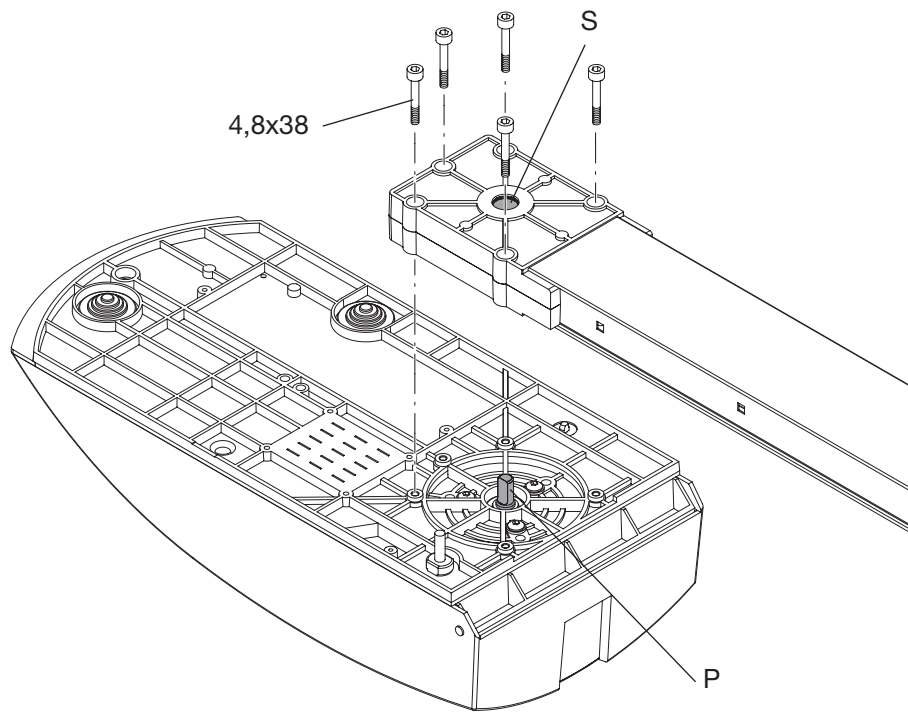

Fig.7
- Move the drive carrier (Fig.6) until the pulley housing (ref. S of Fig. 7) touches the motor shaft pin (ref. P of Fig. 7)
- Fix the track to the basis of the gear motor, as per Fig.7. Fit the track to the basis of the gear motor, with the five D4,8x38 screws.